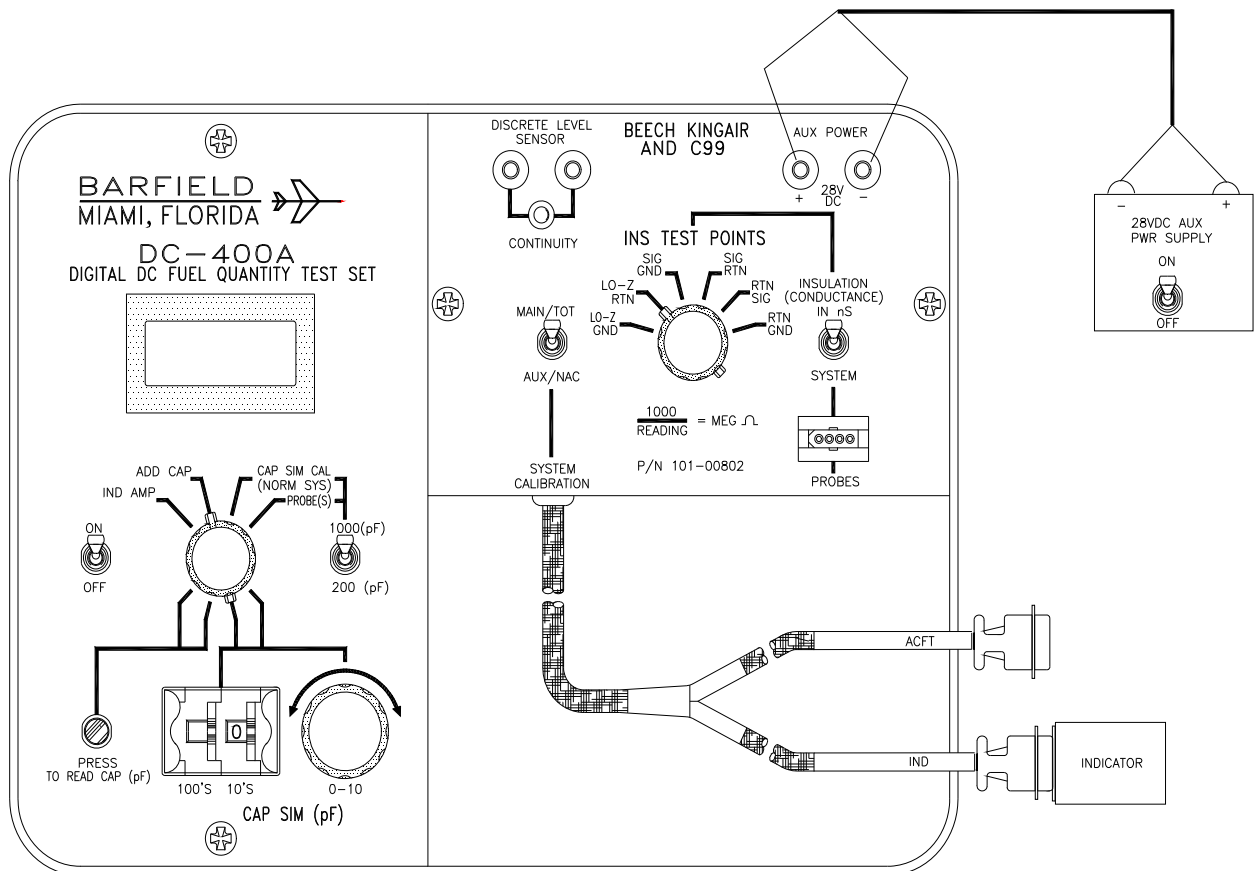
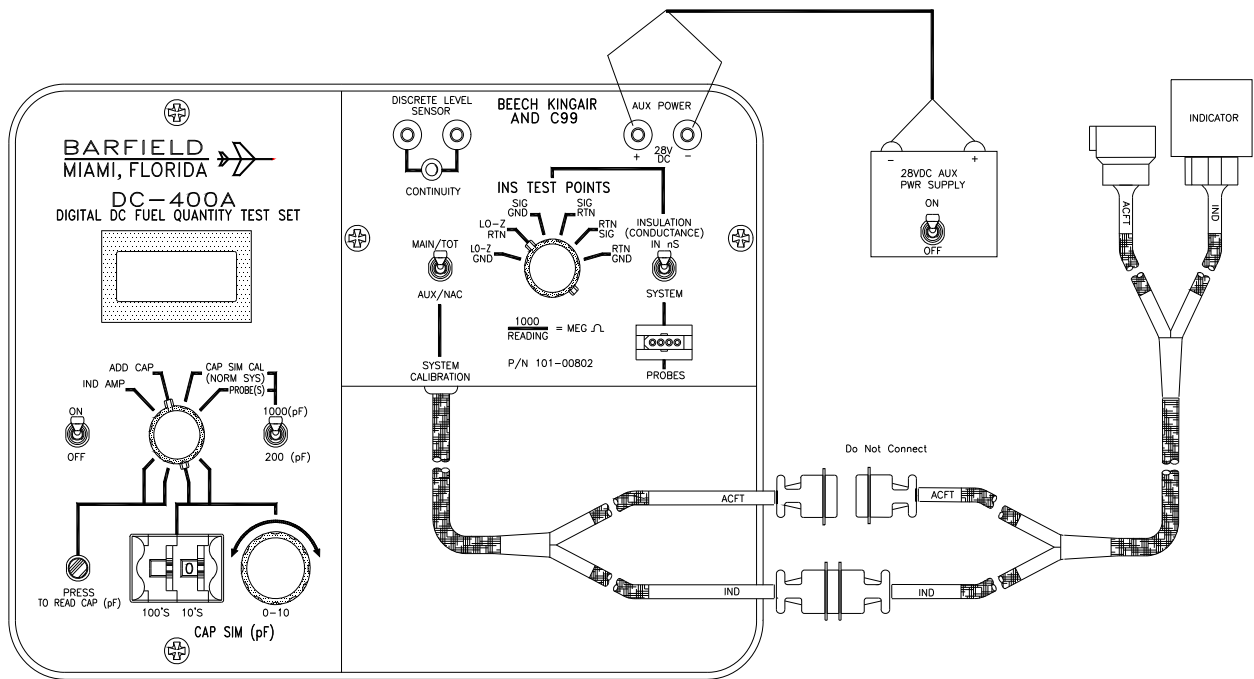

Figure 13 Indicator Bench Test Connection
Figure 14 Indicator Bench Test Connection
- (1) Determine the number of pins on the connector and connect the test set as shown in Figure 13 or Figure 14.
- (2) Connect the 28 VDC power supply to the test set AUX POWER jacks. Observe polarity.